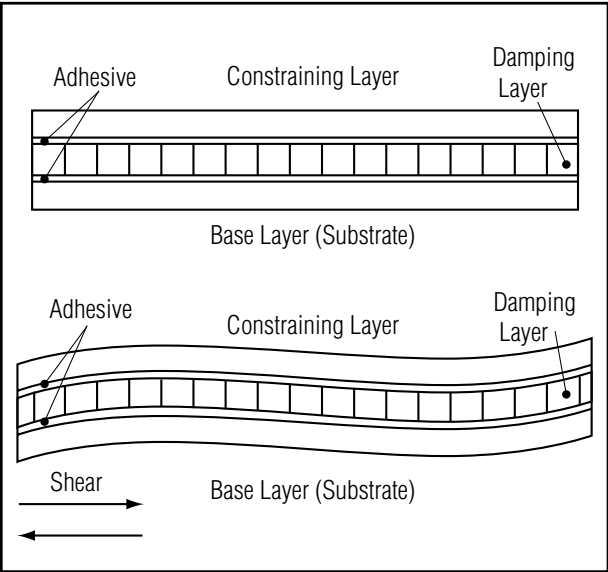

Figure 3
*Constrained-layer damping (CLD) systems* are usually used for very stiff structures. (See Figure 3.) A “sandwich” is formed by laminating the base layer to the damping layer and adding a third constraining layer. When the system flexes during vibration, shear strains develop in the damping layer. Energy is lost through shear deformation, rather than extension, of the material.